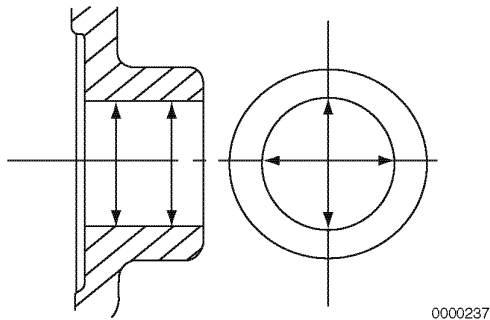

Figure 8-50
6. Measure the diameter of the wrist pin bore on both sides of the piston (**Figure 8-50**). See *Piston on page 8-9* for specifications. Record the measurements.